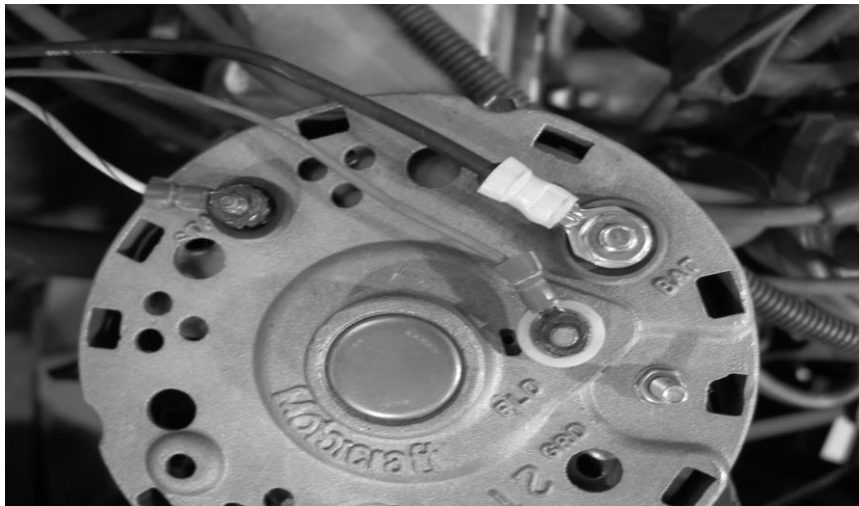
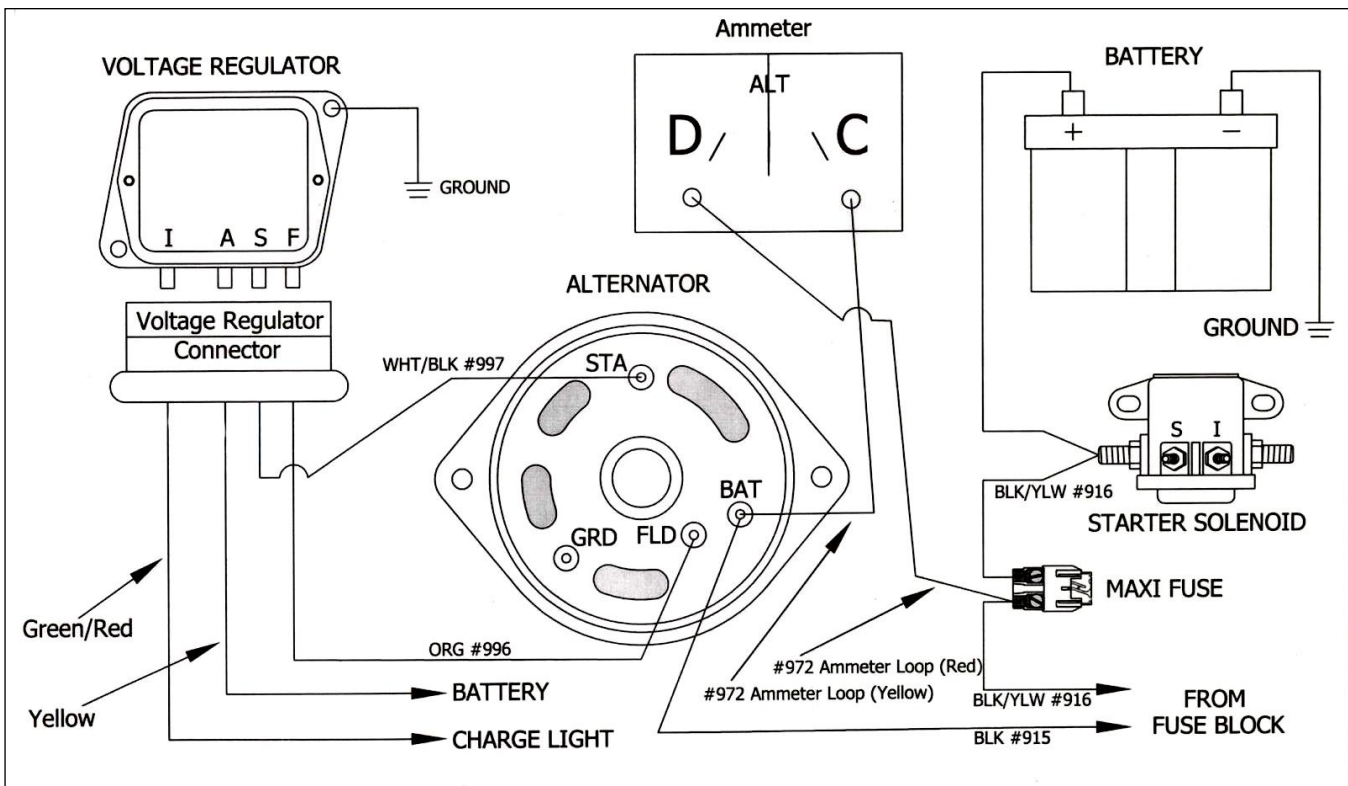

Figure 7-2 Alternator Connections '67-'77 Models
Figure 7-7 Alternator/Regulator/Solenoid Connections
7.1.1 Connect PASSENGER SIDE SECTION wire #915 (Blk) to the Alternator Output post marked "Bat". **See Figure 7-2. If the truck being rewired has an ammeter, it will be necessary to connect the #972 Red and #972 Yellow wires as illustrated in Figure 7-7 on page 14.**
7.1.2 Connect PASSENGER SIDE SECTION wire #996 (Org) to the Alternator post marked "FLD" for Field. Next connect wire #997 (Wht/Blk) to the Alternator post marked "STA" for Stator. **See Figure 7-2**
7.1.6 Using the provided ring terminals connect the PASSENGER SIDE SECTION black/yellow wire #916 to one side of Maxi Fuse Base. Using the remaining portion of wire #916 connect the other side of the Maxi Fuse Base to the Battery side of the starter solenoid. **See Figure 7-7.**